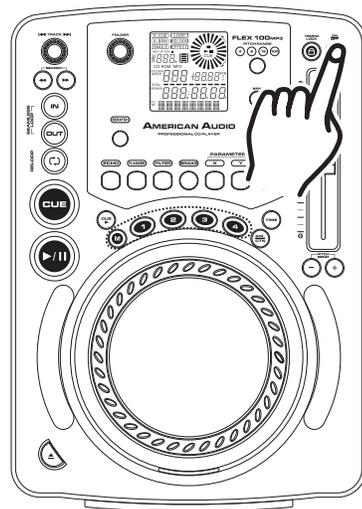
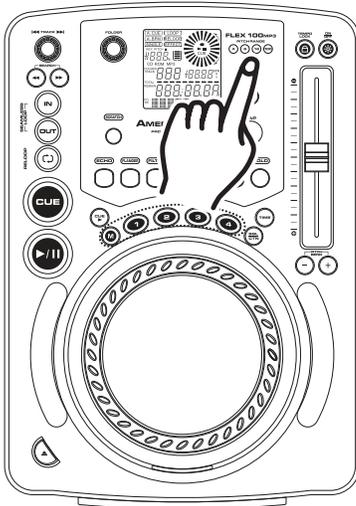

Figure 28
Figure 30
Adjusting the PITCH SLIDER'S RANGE (1): You may change the PITCH SLIDER'S (7) operating range at any time. To change the operating range be sure the pitch function is turned on, see figure 28. The pitch percentage can be changed between +/-4%, +/-8%, +/-16%, and +/- 100%. 4% will allow the least amount of pitch manipulation and 100% will allow the most amount of pitch manipulation. To adjust the different ranges, press the PITCH ON/OFF BUTTON (3) and tap on the PITCH RANGE BUTTON (1) until your desired value is reached, see figure 30.